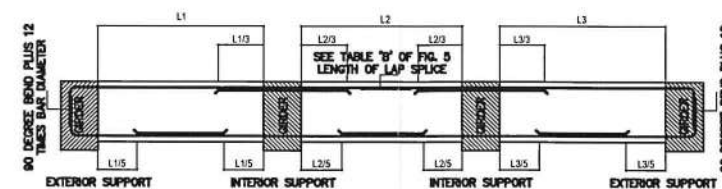
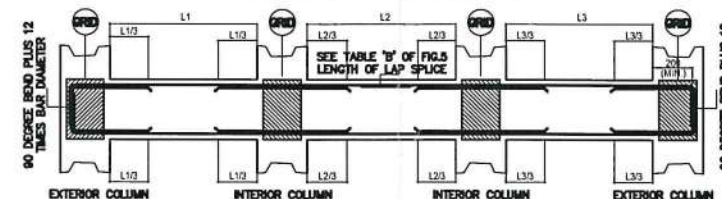

FIG. 4. TYPICAL DETAIL OF INTERMEDIATE BEAM
FIG. 5. TYPICAL DETAIL OF GIRDER
- TYPICAL BAR BENDING AND CUTTING DETAILS FOR INTERMEDIATE BEAMS AND GIRDERS ARE SHOWN IN FIGURE 4 AND FIGURE 5 RESPECTIVELY. MAIN REINFORCING BARS SHALL HAVE A STANDARD HOOK OF 90 DEGREE BEND PLUS 12 TIMES THE DIAMETER OF THE BAR EXTENSION AT ITS FREE END.